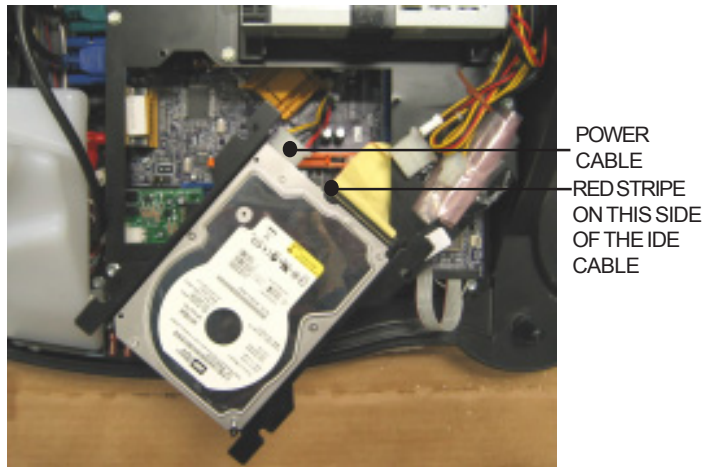

FIGURE 3-2 - POWER AND IDE CABLES ATTACHED TO HARD DRIVE
3. Attach the power and IDE cables to the hard drive as shown in Figure 3-2. Make sure both headers are firmly seated.